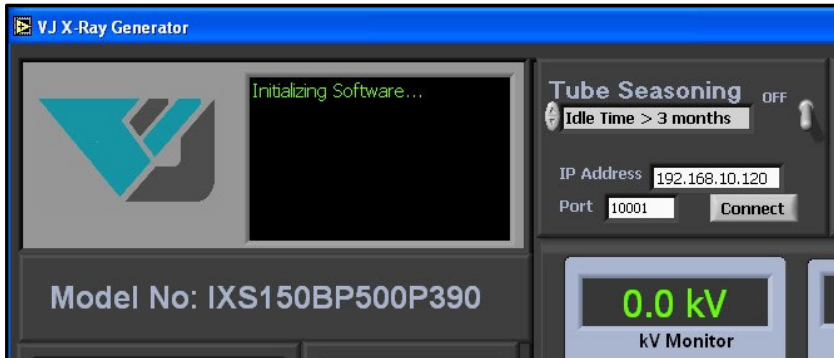

Fig 3-8 GUI Interface – Ethernet Connection
6. If you choose to connect the ethernet port, then the GUI will open as shown in Fig 3-8. Make sure the IP address is 192.168.10.120, then press Connect. When successfully connected it will display the IP address used in the upper left-hand corner just below **Initializing Software...**